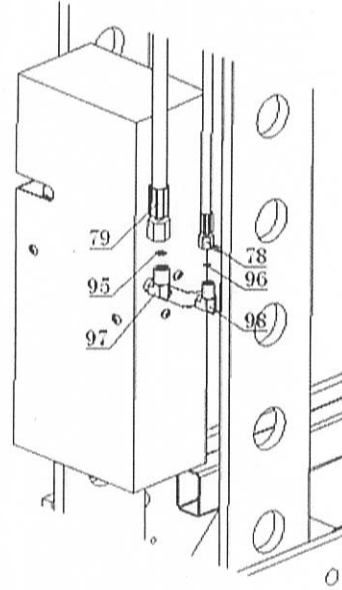

Fig. 6
11.2.4 Remove the plug of connector (97, 98) and oil hose (78, 79), then connect the oil hose 1 (78) and oil hose 2 (79) to connector (98) and connector (99) and tighten it. (refer to fig. 6) Note: make sure the o-rings are in the grooves of connector (97) & (98) before assembling the two oil hoses.